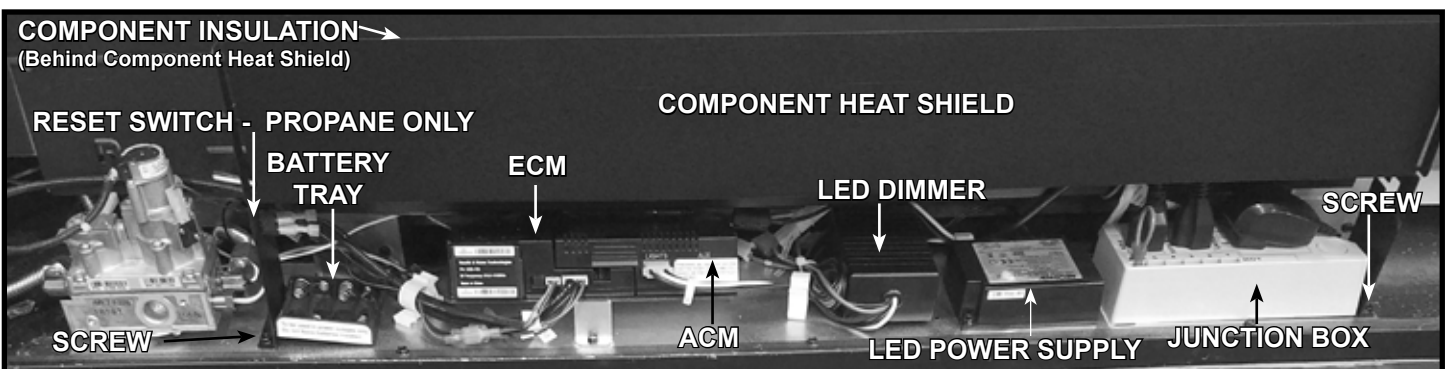

Figure 8.2 Valve Cavity (Lower Access Panel Removed)
3. Remove screws on left and right sides of component heat shield and lift it out of the control cavity. See Figure 8.2 for location of component heat shield screws.